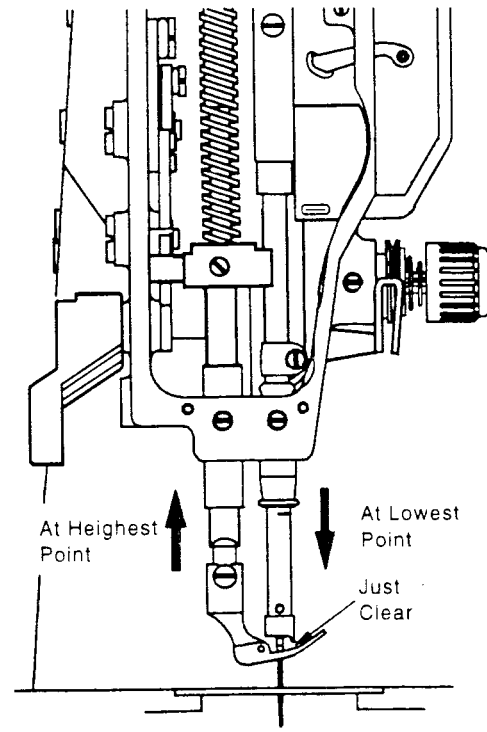

Fig. 5
2. When presser foot is at its highest point and needle bar is at its lowest, top of presser foot should clear lower end of needle bar thread guide, as shown in Fig. 5.